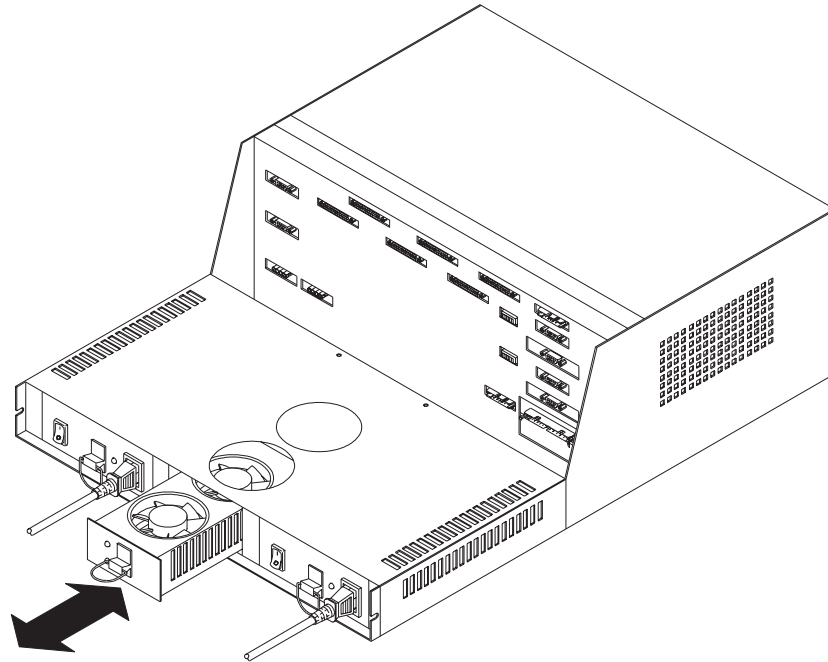

Figure 19. Removing and Installing a Power Supply Fan CRU
3. Remove the power supply fan CRU (Figure 19) by lifting up on the latching lever and pulling out.
4. Install the new power supply fan CRU (Figure 19).